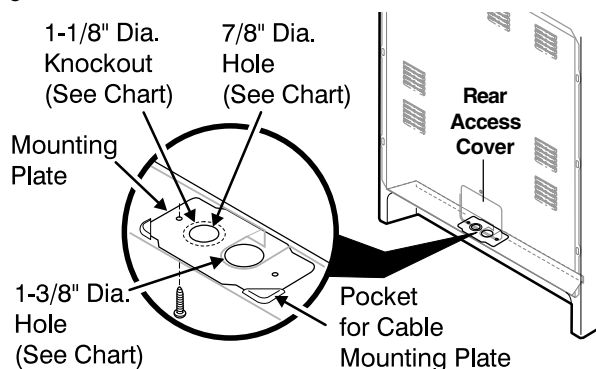

Fig. 9
See range connection opening size chart (Figs. 9 & 10) for cord kit ampere rating information. Terminals on end of wires must be either closed loop or open-end spade lugs with upturned ends.
The Rear Access Cover must be removed (Fig 9). To remove, loosen center screw (one screw) and remove cover. The terminal block will then be accessible.
NOTE: Range is shipped from factory with 1-3/8" dia. hole as shown. To use either 7/8" dia. hole or 1-1/8" dia. knockouts refer to Fig. 9.
- Follow the manufacturer's installation instructions supplied with the strain relief and install (Also see Figs. 9, 10 & 11).
- Make sure all screws are tightened securely and replace the rear access cover (See Fig. 9).
1. Follow the manufacturer's installation instructions supplied with the strain relief and install (Also see Figs. 9, 10 & 11).
3. Make sure all connections are tightened securely and replace the rear access cover (See Fig. 9).